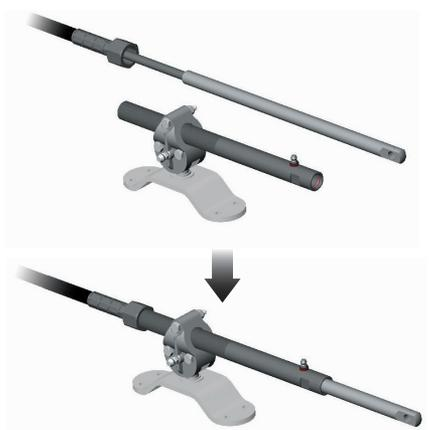

Fig B42 - Fitting the steering cable to the drive tube
- ii) Insert the rod end of the steering cable into the threaded end of the guide tube (Fig B42).